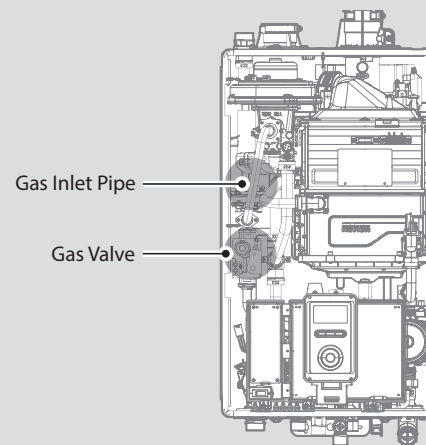

Figure 2. NCB-H Series Internal Components
4. With the internal components exposed, locate the gas inlet pipe and the gas valve, as shown in Figure 2.